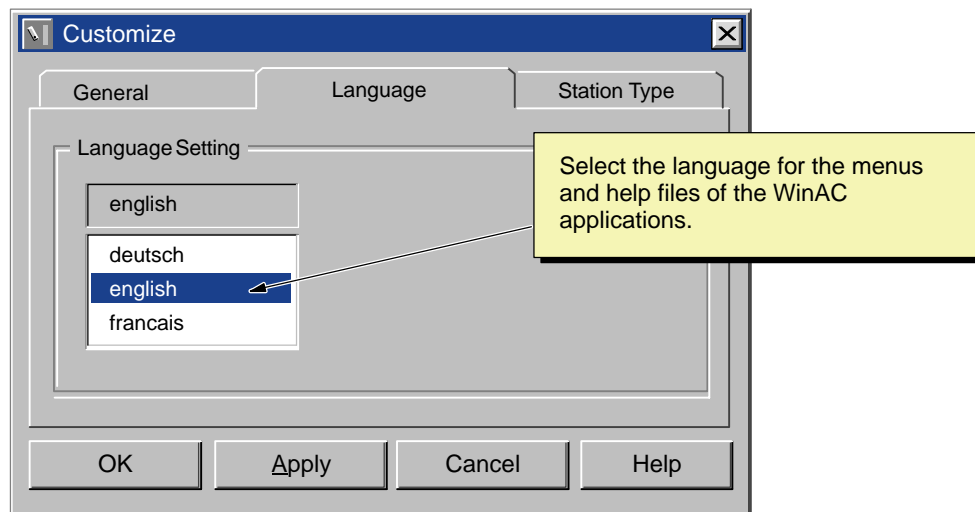

Figure 4-17 Selecting the Language for the WinLC Control Panel and Help Files
3. Select the language for WinAC applications (German, English, or French). See Figure 4-17.